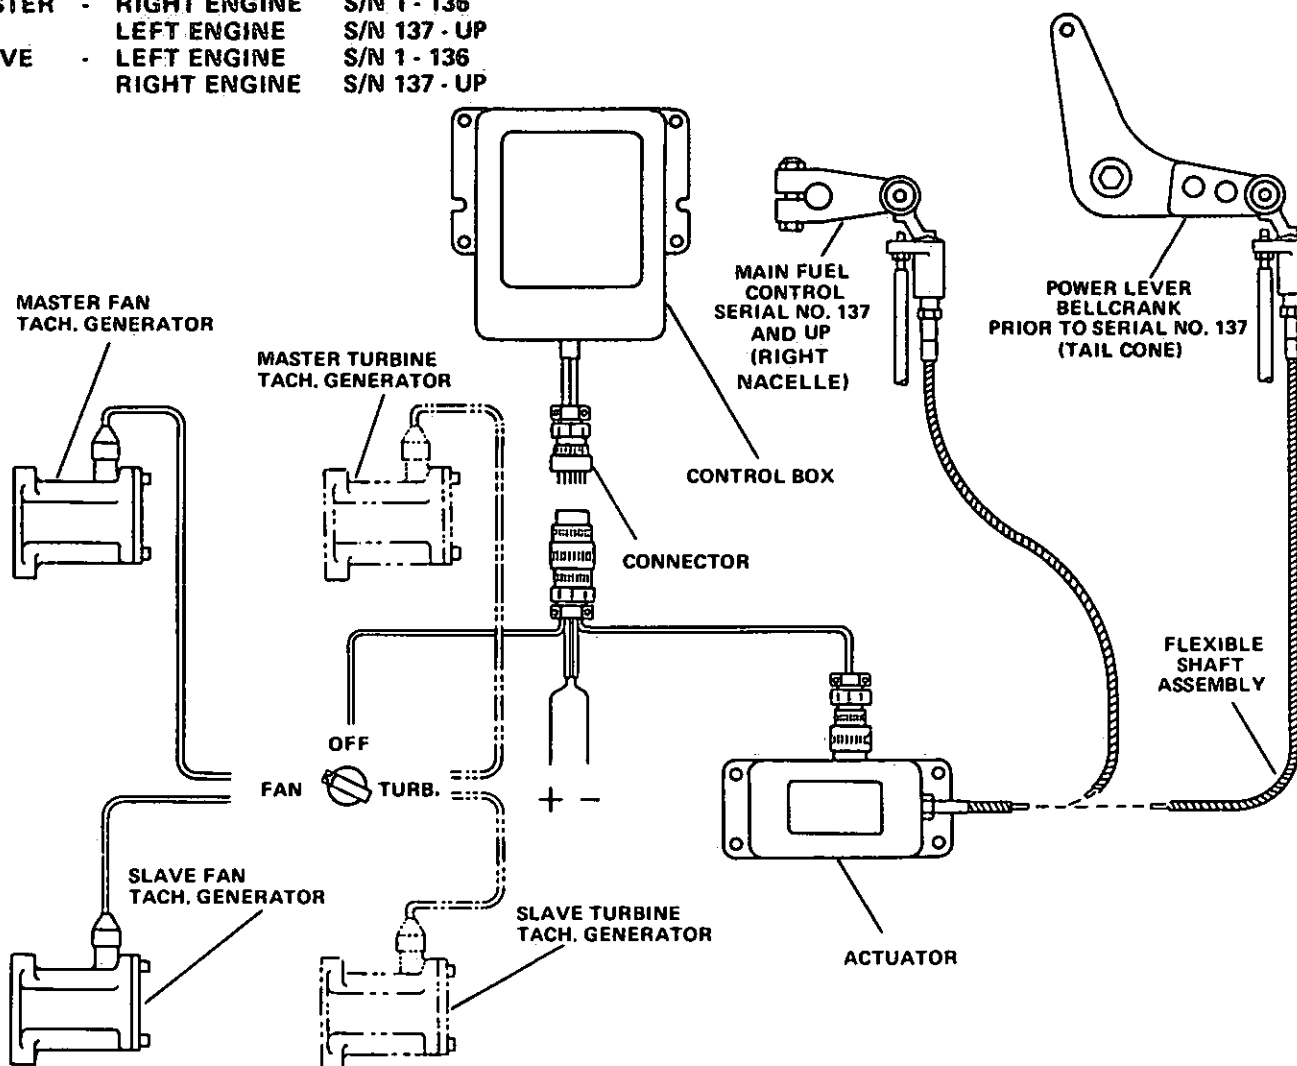

Figure 5. Schematic Diagram of Synchronizer Operation - Tachometer Generators
**OPERATION:** Three Phase alternating current from the tachometer generators is fed into the control box (figure 5). When any difference in the frequency is detected, a signal is sent from the control box to the actuator, which trims the speed of the slave engine to match that of the master engine exactly. Normal fuel control operation is un-